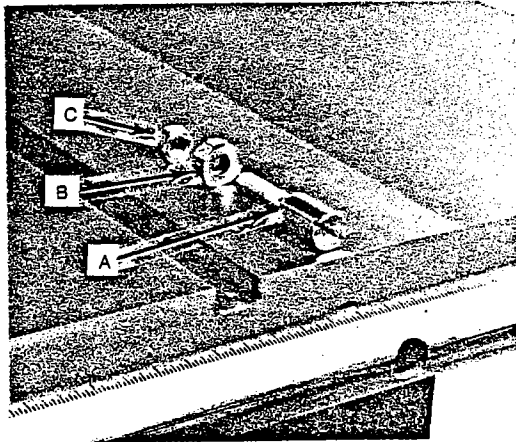

FIGURE 2
1. Face graduation markings upward (see Figure 2).